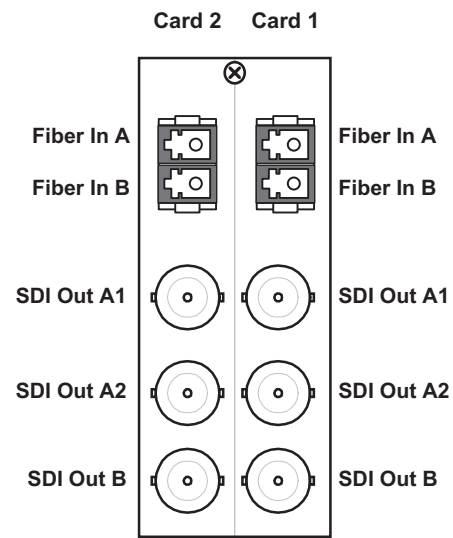

Figure 2.5 Cable Connections for the 8320AR-045 Rear Module
- **8320AR-045** Split Rear Module — Each rear module occupies two slots and accommodates two cards. This rear module provides two optical inputs, and three SDI outputs per card. Refer to **Figure 2.5**.